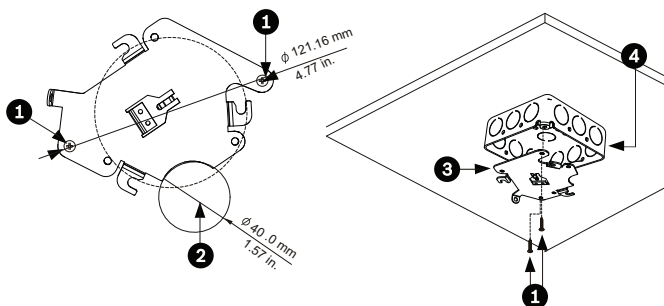

Figure 4.3 Install the Mounting Plate
3. Secure the mounting plate to the junction box with the user supplied hardware (see Figure 4.3).
- Route wires on side of mounting plate with crescent shaped cut-out (Ref. #2 *Figure 4.3*).